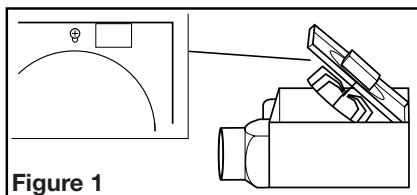

Figure 1
- Remove the fan's venturi assembly, which is secured in place with one screw through the venturi (Figure 1). This is a captive screw and will stay installed in the venturi. Keep the venturi assembly and the grill in the carton until needed so they do not get damaged or lost.